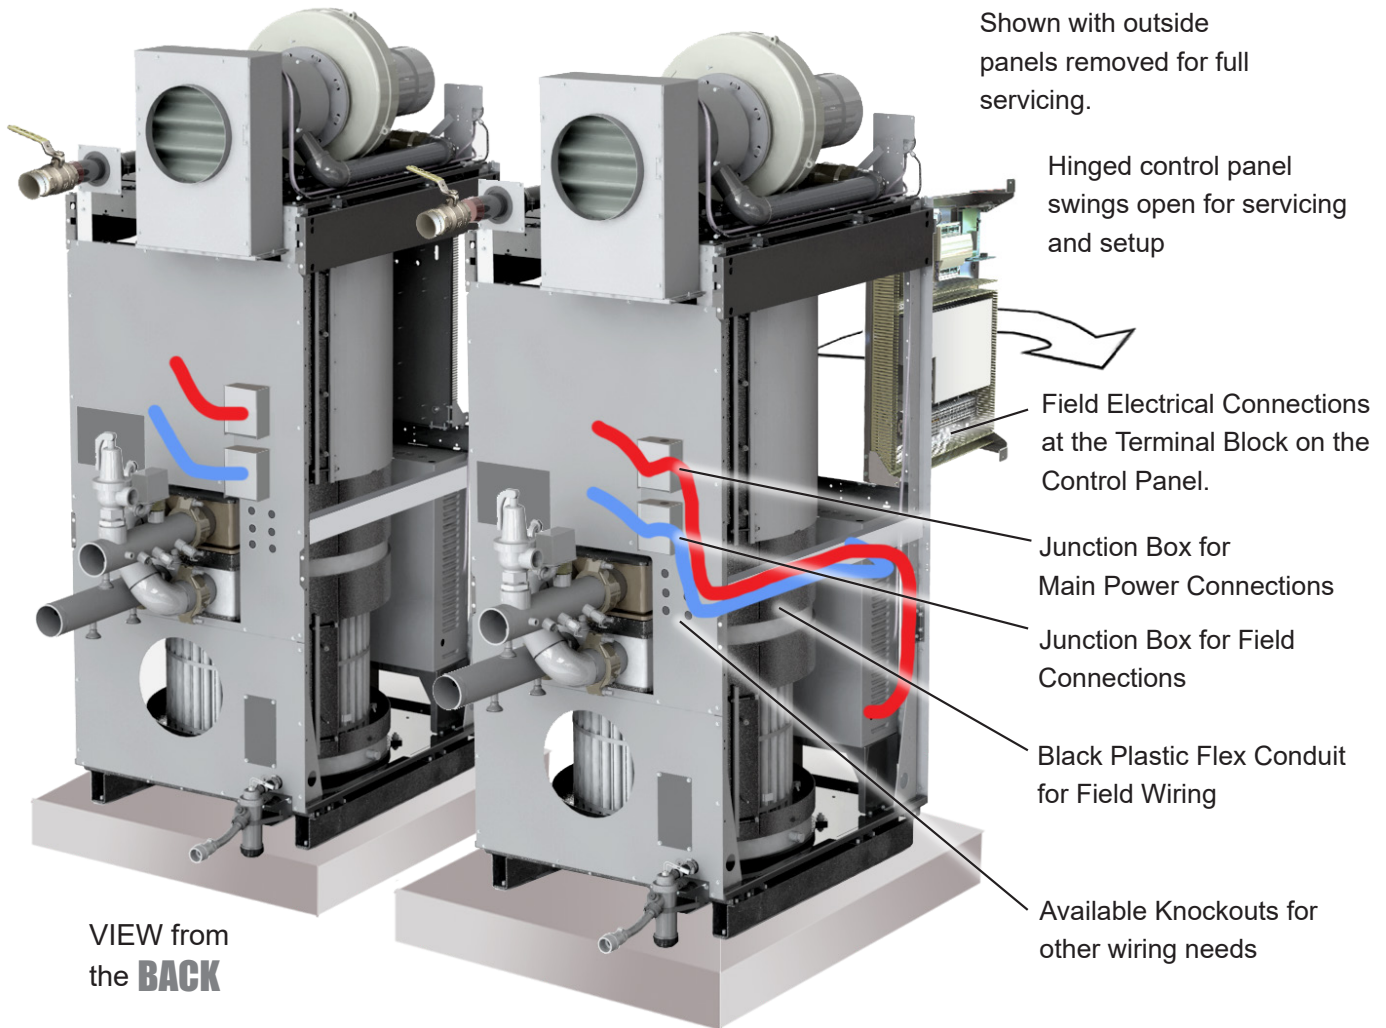

Figure 18. Wiring Access
This unit is provided with an electrical junction boxes on the rear panel for main power connections. See Figure 18. All power wires are factory installed between this junction box and the main high voltage box at the front of the unit. The unit is available with multiple voltage packages to adapt to customer needs ranging from 120-600 volts with single or 3 phase versions. Refer to the rating plate and Table 17 for appropriate voltage and current ratings. As a common industry practice, the manufacturer has color coded the single and three phase wires as shown in Table 18.
**NOTE: The back panel is the only panel that is NOT removed during annual servicing. All power connections must be run through the back panel as shown in Figure 18.**
Wiring for all Field Connections must be run through the available electrical conduit to the back of the unit. See Figure 18.